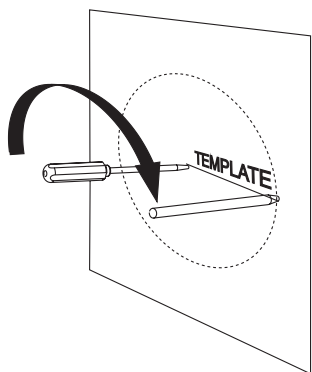

Fig. 1
2. Use the template provided on page 5 of this instruction to mark out where the Ø180mm hole will be cut through the wall (Fig. 1).